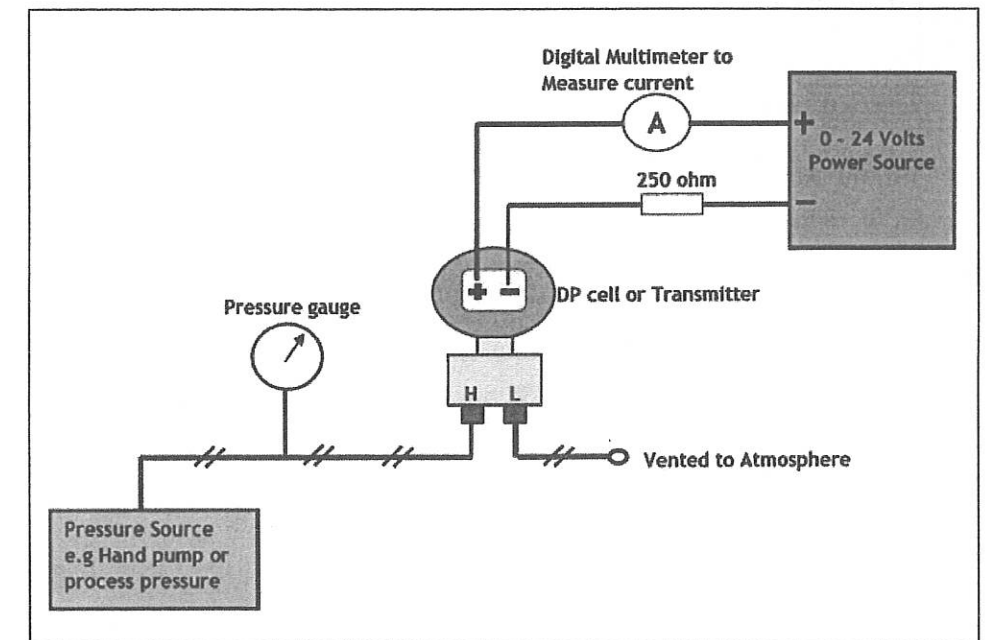

Figure A4 (c) / Rajah A4 (c)
- c. During the calibration process of a pressure transmitters as shown in Figure A4 (c) below, interpret the steps that should be taken. Given that the pressure range from 25 to 125psig and the output signal from 4 to 20mA.